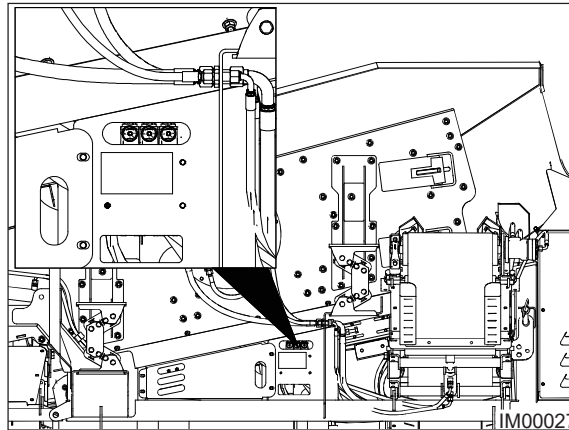

Fig: 10.5 - Control Levers
3. Proceed to the control levers located on the left-hand side of the machine (Fig: 10.5).